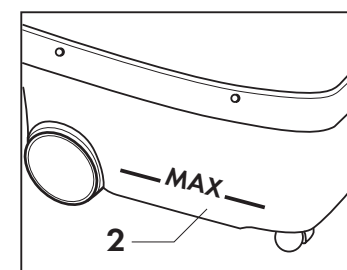

Fig. 5
Add 2.5 litres of water into the recovery tank (2). This will ensure that the air is filtered and any foreign material (dust, germs etc.) is trapped in the tank. To ensure smooth functioning of the appliance, do not exceed the specified amount of water (Fig. 5)